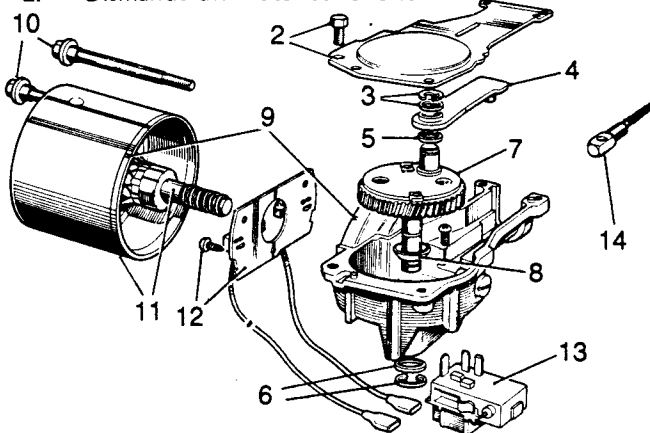

Fig V3.9
- (1) Refer to Fig V3.9. Remove the gearbox cover (2).
- (2) Remove the circlip and plain washer (3) securing the connecting rod.
- (3) Withdraw the connecting rod (4).
- (4) Withdraw the flat washer (5).
- (5) Remove the circlip and washer (6) securing the shaft and gear.
- (6) Clean any burrs from the gear shaft and withdraw the gear (7).
- (7) Withdraw the dished washer (8).
- (8) Add alignment to the yoke and gearbox for reassembly (9).
- (9) Remove the yoke securing bolts (10).
- (10) Withdraw the yoke and armature (11).
- (11) Remove the brush gear assembly (12).
4. To reassemble the motor: (Fig V3.9 still applies).